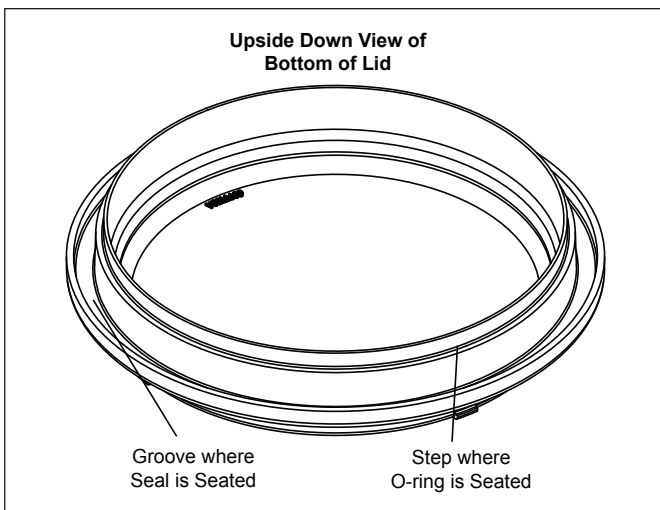

Figure 10. Placement of Blue Pressure Test O-ring
2. Place the blue o-ring on the step located $\frac{1}{4}$ " from the bottom of the lid. See Figure 10.
NOTE The blue o-ring sits approximately $\frac{1}{4}$ " away from the seal. See Figure 10.